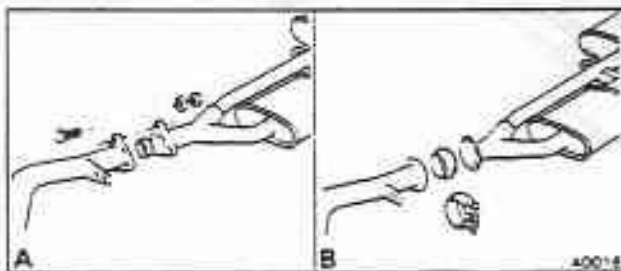

Fig. Q3/1-2 Modified exhaust clamp
4. Two types of clamp are fitted forward of the intermediate silencers (see fig. Q3/1-2). Therefore, if the Hymatic type is fitted, refer to Section Q5 for the special torque tightening figures.